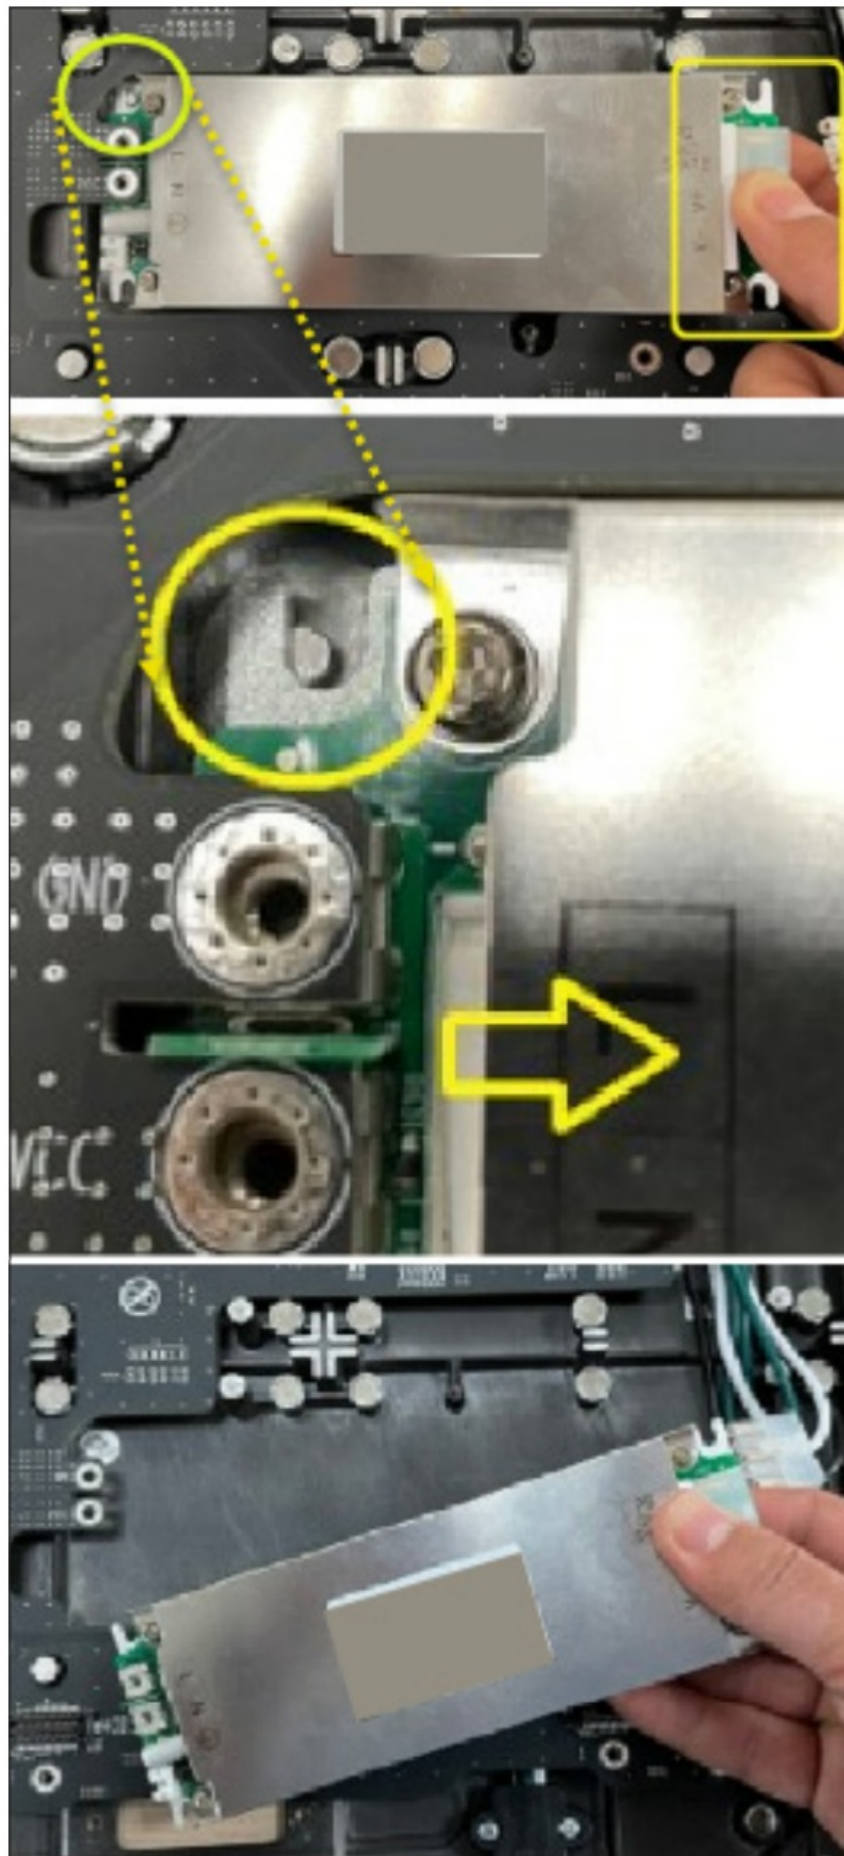

Figure 11: Remove Power Supply
5. Push the power supply up from the right side. Disengage the hook from the pin on the left side to release the power supply fully. Then, remove the power supply. Refer to Figure 11.